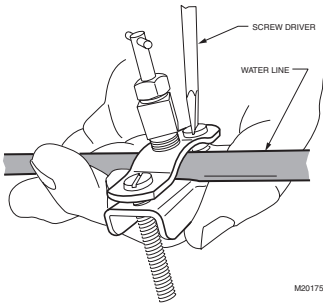

Fig. 6. Installing saddle valve.
- Use the self-piercing saddle valve (included) to tap into the water supply line at the location selected. See Fig. 6. If tapping into galvanized pipe, drain line and pre-drill 3/16 in. tap for saddle valve.